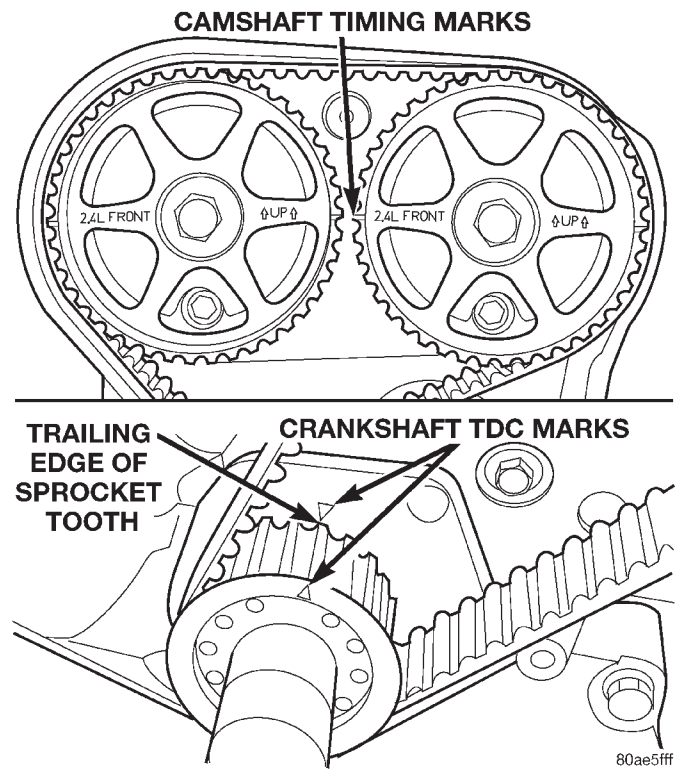

Fig. 63 Crankshaft and Camshaft Timing
(5) Remove the pull pin or Allen wrench from the belt tensioner.
(6) Once the timing belt has been installed and tensioner released, rotate the crankshaft two (2) complete revolutions. Verify that the TDC marks on crankshaft and timing marks on the camshafts are aligned as shown in (Fig. 63).
(7) Install right engine mount and support bracket. Refer to Removal and Installation procedure in this section.
(8) Install upper timing belt cover bolts 4.5 N·m (40 in. lbs.).
(9) Install the lower timing belt cover bolts 4.5 N·m (40 in. lbs.).
(10) Install generator belt idler pulley and tighten bolt to 54 N·m (40 ft. lbs.).
(11) Install crankshaft damper. Refer to procedure in this section.
(12) Install accessory drive belts. Refer to Group 7, Cooling System.
(13) Install right inner splash shield.
(14) Install right front wheel.